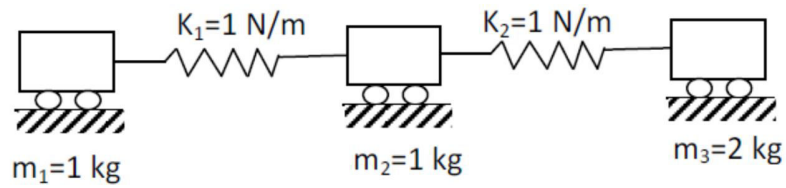

Fig. 4
- Q5** Find out the natural frequency of the following system shown in Fig.4 by Holzer's method & draw the mode shapes. **(16)**